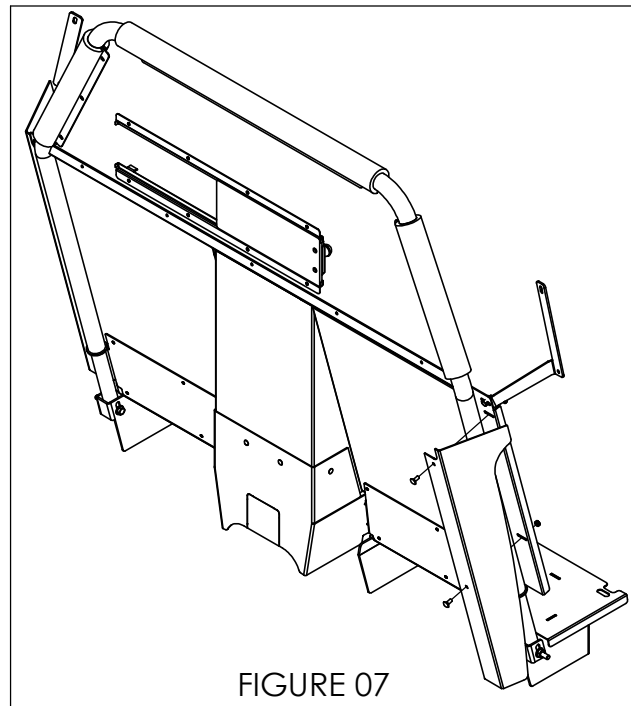

FIGURE 07
13. INSTALL LOWER WINGS USING #10-32 CARRIAGE BOLTS AND KEEPER NUTS. ENSURE THEY ARE ADJUSTED TO MINIMIZE GAPS ALONG THE B-PILLARS (FIGURE 07).